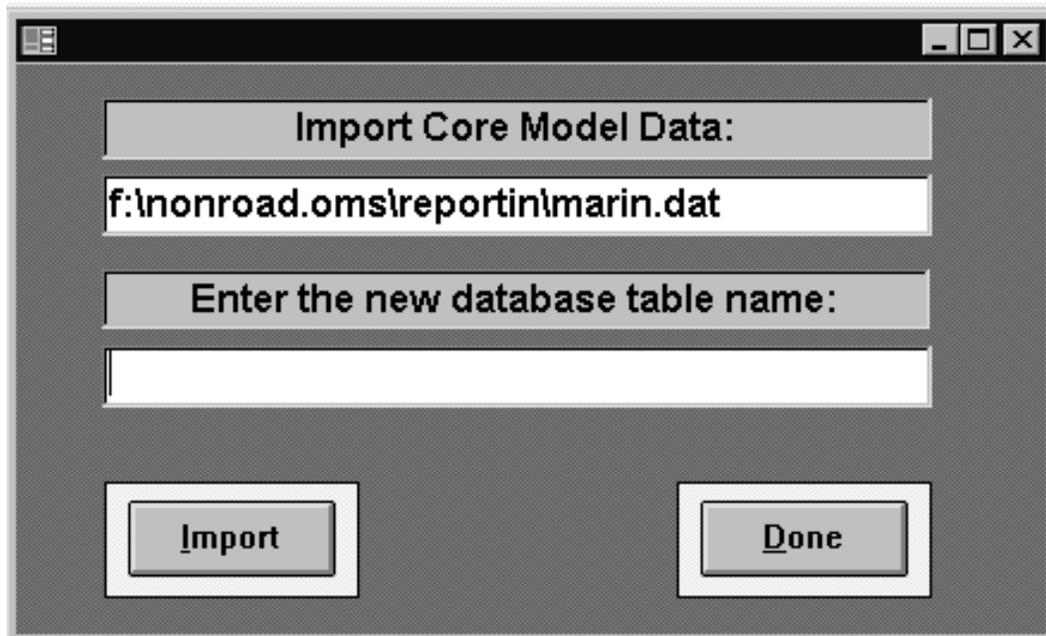

Figure 5-2: Import core model data screen.
4. A screen will appear requesting you to enter the new database table name (Figure 5-2). With the mouse, click in the field below the words ENTER THE NEW DATABASE TABLE NAME and type in the appropriate name of the database table. The database
For the *Emissions Totals by Equipment Type* report, *Emissions Totals by Horsepower* report, *Emissions Totals by HP and Source Classification* report, *Emissions Totals by SCC* report, and *Emissions Totals by Source Classification* report, the report options include all of those shown in Figure 5-2. For the *Emissions Totals by County* report, the only report options required are the name of the database table that you want to use, the number of decimal points desired, and the pollutants to report. For the *Population and Fuel Consumption by HP and Source Classification* report and the *Population and Fuel Consumption by SCC* report, the only report options required are the name of the database table that you want to use, the number of decimal points desired, and whether you want all counties or a specific county. The report option for types of pollutants to report is not necessary since emissions are not being reported.